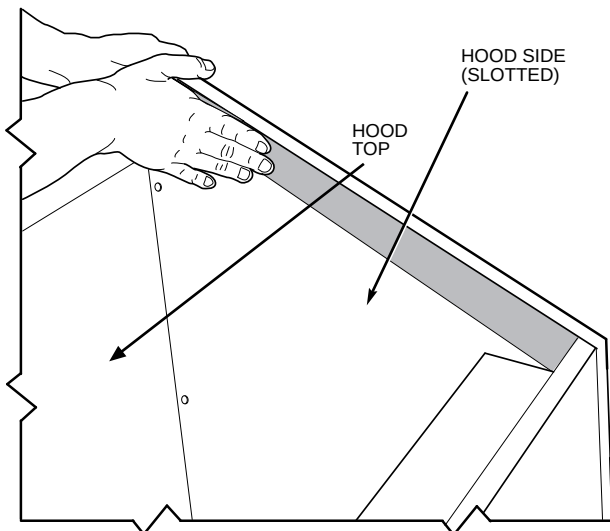

Fig. 23 — Adding Foam Strip to Hood Side
7. Place gray foam strip (provided) on inside of slotted hood side between filter and cross member opposite the mounting end. See Fig. 23.